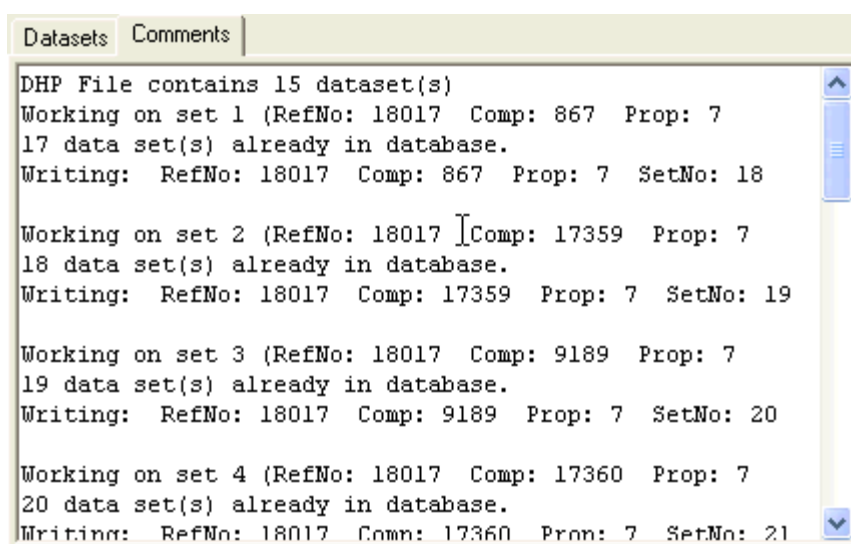

Figure 29: Update log
2. Replace (Specify Sets): The datasets will replace existent datasets. The user has to specify the dataset number (see Figure 29 Data Set List - Replace Mode).